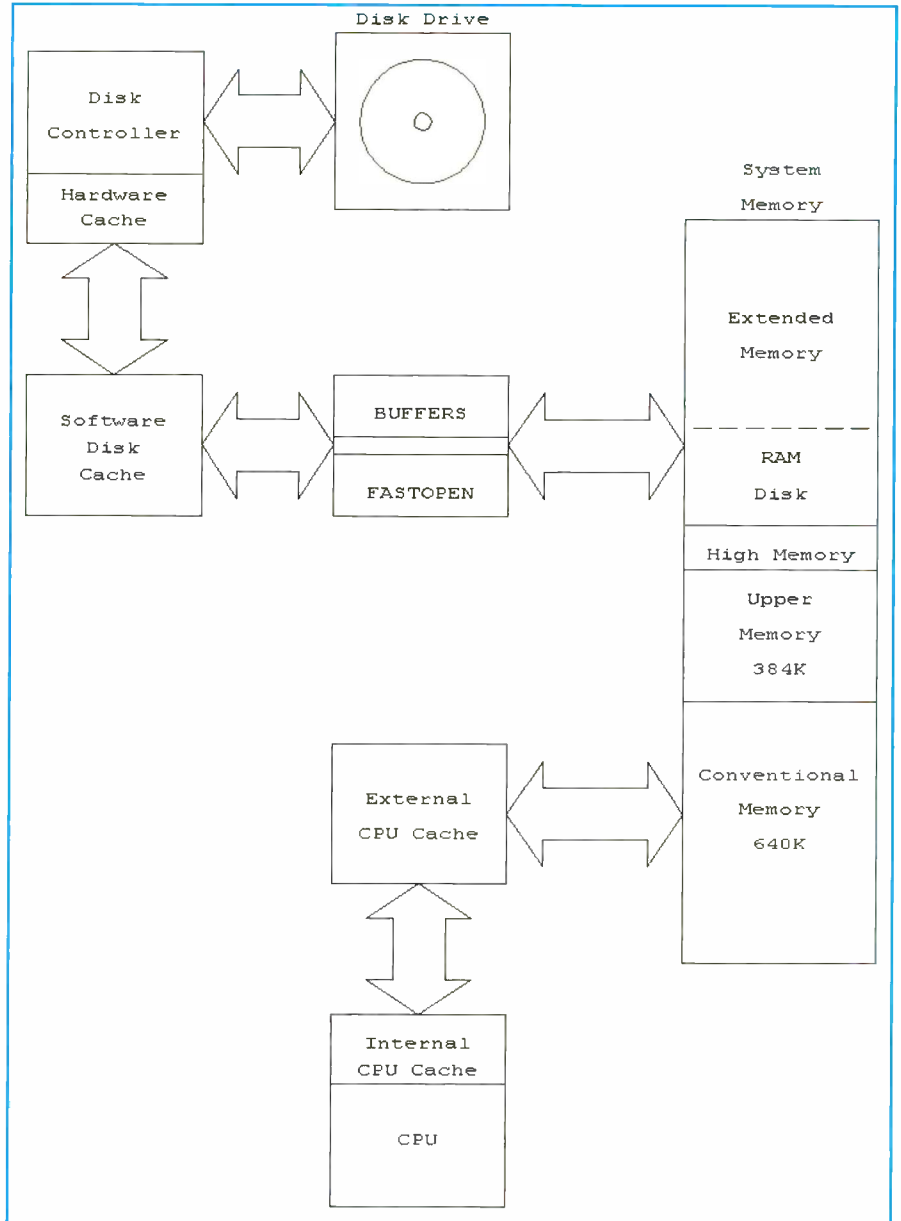

Fig. 1. A disk cache can be put in any of four types of system RAM.
There are two types of caches: disk caching and CPU caching. Shown in Fig. 1 is the relationship between the two within the PC. As you can see, the two technologies aren't conflicting; rather, they're complementary.
- *Choosing the Right RAM.* Where you locate a cache is important. System RAM comes in four flavors, and a disk cache can be put in any one of the four (see Fig. 1). Conventional RAM occupies the first 640K of memory and is used mostly by software applications. Because this RAM is vital to applications, it's not the best cache choice, although it's available to all software caches, except SmartDrive.